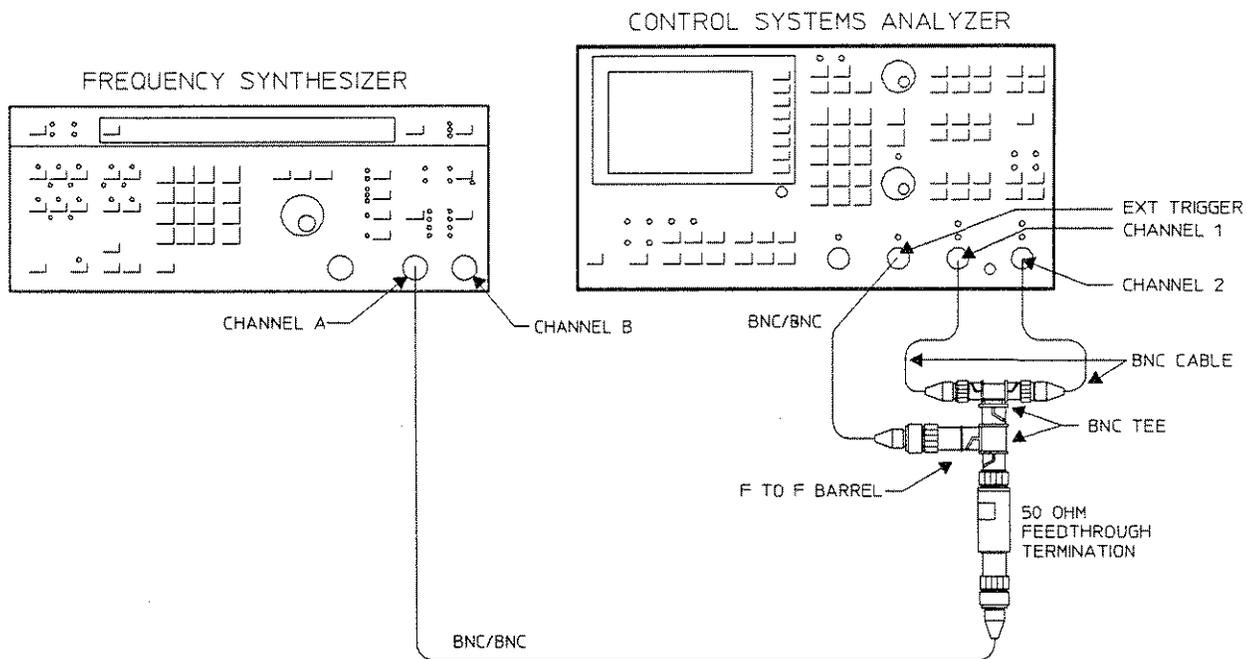

Figure 3-10. Single Channel Phase Accuracy
1. Connect the test instruments as shown in Figure 3-10.